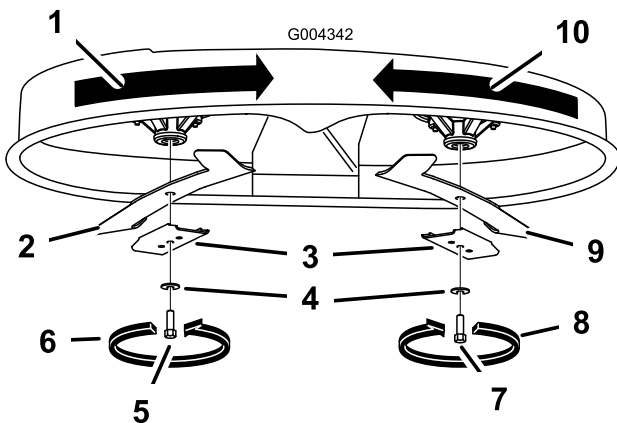

Figure 50
Hold the blade end using a rag or thickly-padded glove. Remove the blade bolt, curved washer, blade stiffener, and blade from the spindle shaft (Figure 50).
1. Install the blade onto the spindle shaft (Figure 50).
2. Install the blade stiffener, the curved washer (cupped side toward the blade) and the blade bolt (Figure 50).